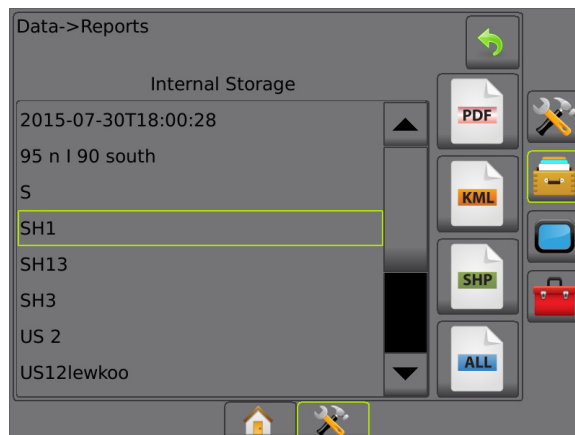

Figure 19 - Reports screen
4. Press the Reports button. You will see the reports screen as shown in Figure 19.